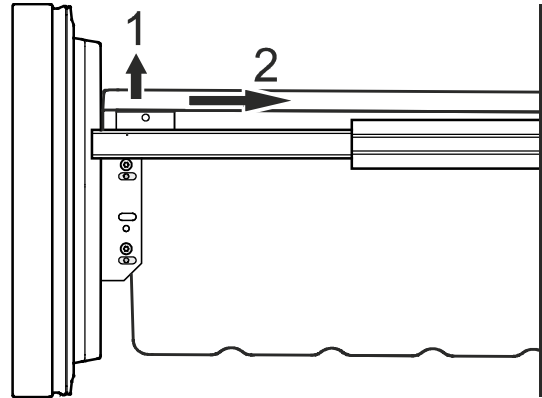

Figure 18
- Unlatch the container on the left and right corners by pulling upwards (1) - **Figure 18.**
- Slide the container backwards (2) - **Figure 18.**